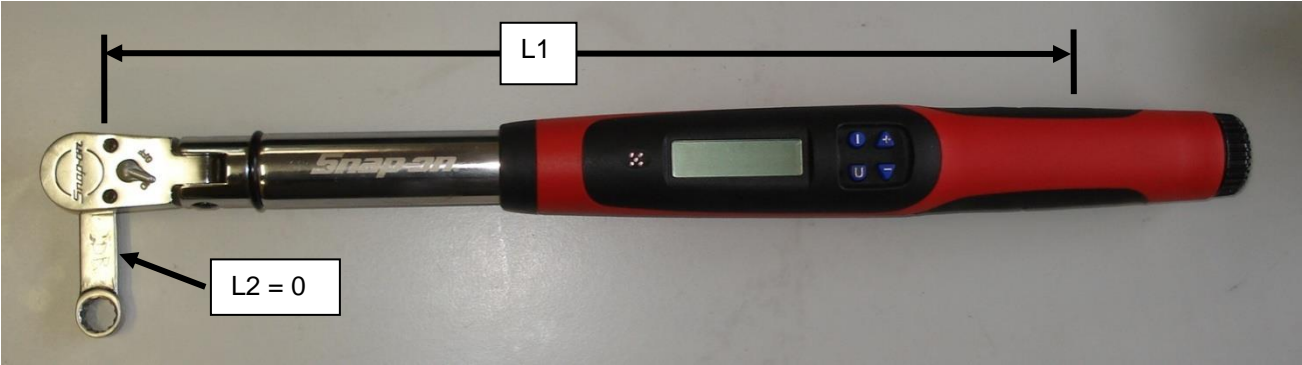

Figure 13 – Torque Wrench & Crowsfoot Adaptor Setting 2
- If the extension is oriented at 90° to the wrench as shown in Figure 13 then no correction is needed because L2 is zero.